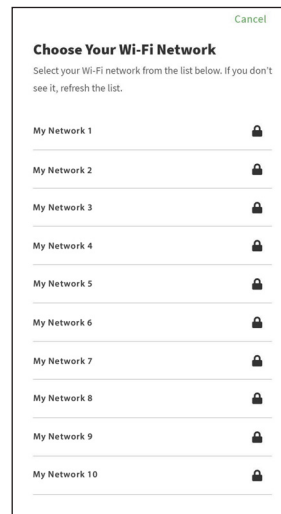

Figure 147 - Select Wi-Fi Network
- 3 Select your preferred Wi-Fi network from the list provided within the app (Figure 147). The LED indicator will pulse from dim to bright when attempting to connect to the local network. Once connected to a Wi-Fi network, the temporary connection between your device and the water heater will be automatically terminated.